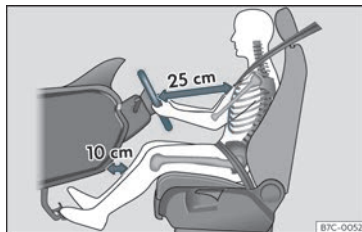

Fig. 2 The correct distance between the driver and the steering wheel must be at least 25 cm (10 inches).
- Move the steering wheel so it is at least 25 cm (10 inches) away from the steering wheel»» **Fig. 2** and you can hold it with both hands on both sides, on the outer part, with your arms slightly bent.
- Move the seat in such a way that you can step on the pedals with your knees slightly bent and with a distance between the knees and the dashboard of at least 10 cm (4 inches)»» **Fig. 2**.